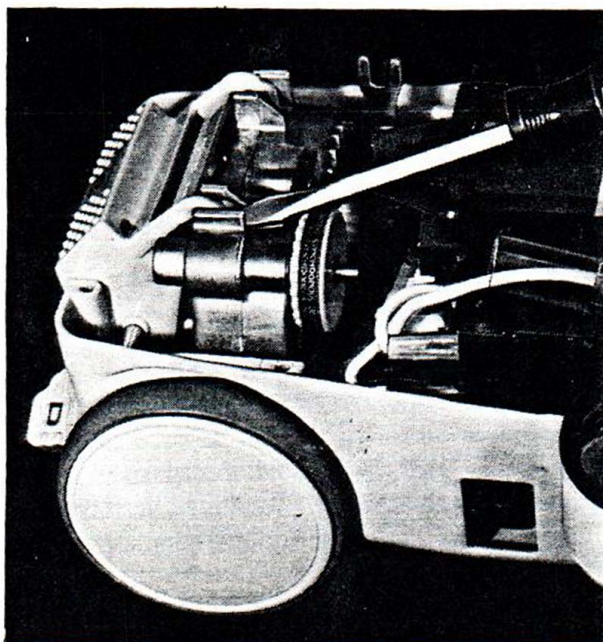

Figure 8. Foot Pedal Removal
- A. See Figure 8. Using a thin bladed screw driver, carefully pry the pivot points of the power switch foot pedal off the pivot pins formed in the drive system housing.